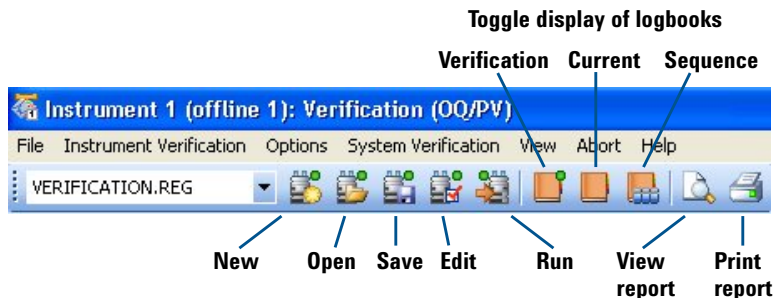
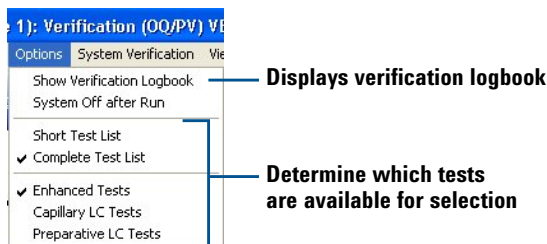

Figure 55 Tools to work with instrument verification
Figure 57 These options control the types of tests that you can select for instrument verification.
- Use the Verification Toolbar, shown in Figure 55.
The Options menu, shown in Figure 57, determines the specific set of tests that are available at any given time.
You can open the verification logbook from either the Verification Toolbar or the Options menu, as shown in Figure 55 on page 102 and Figure 57 on page 104.